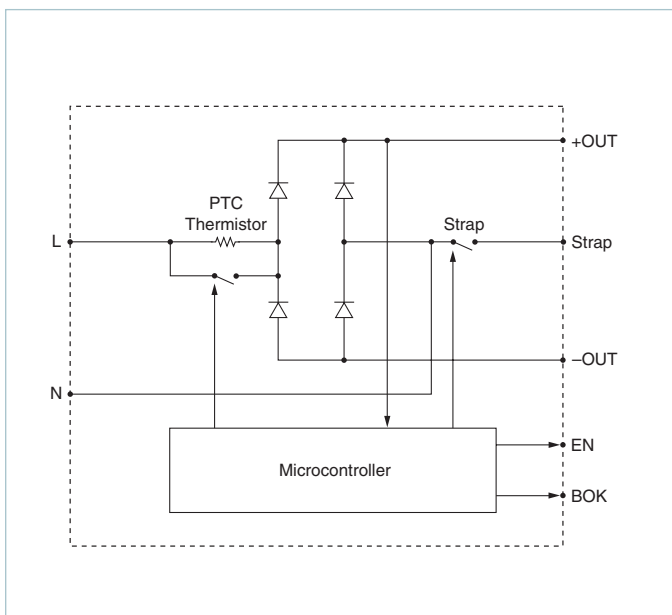

Figure 8 — Functional block diagram
Initial Conditions: The switch that bypasses the inrush limiting PTC (positive temperature coefficient) thermistor is open when power is applied, as is the switch that engages the strap for voltage doubling. (See Figure 8). In addition, the downstream DC-DC modules are disabled via the Enable (EN) line, and Bus-OK (B OK) is high.